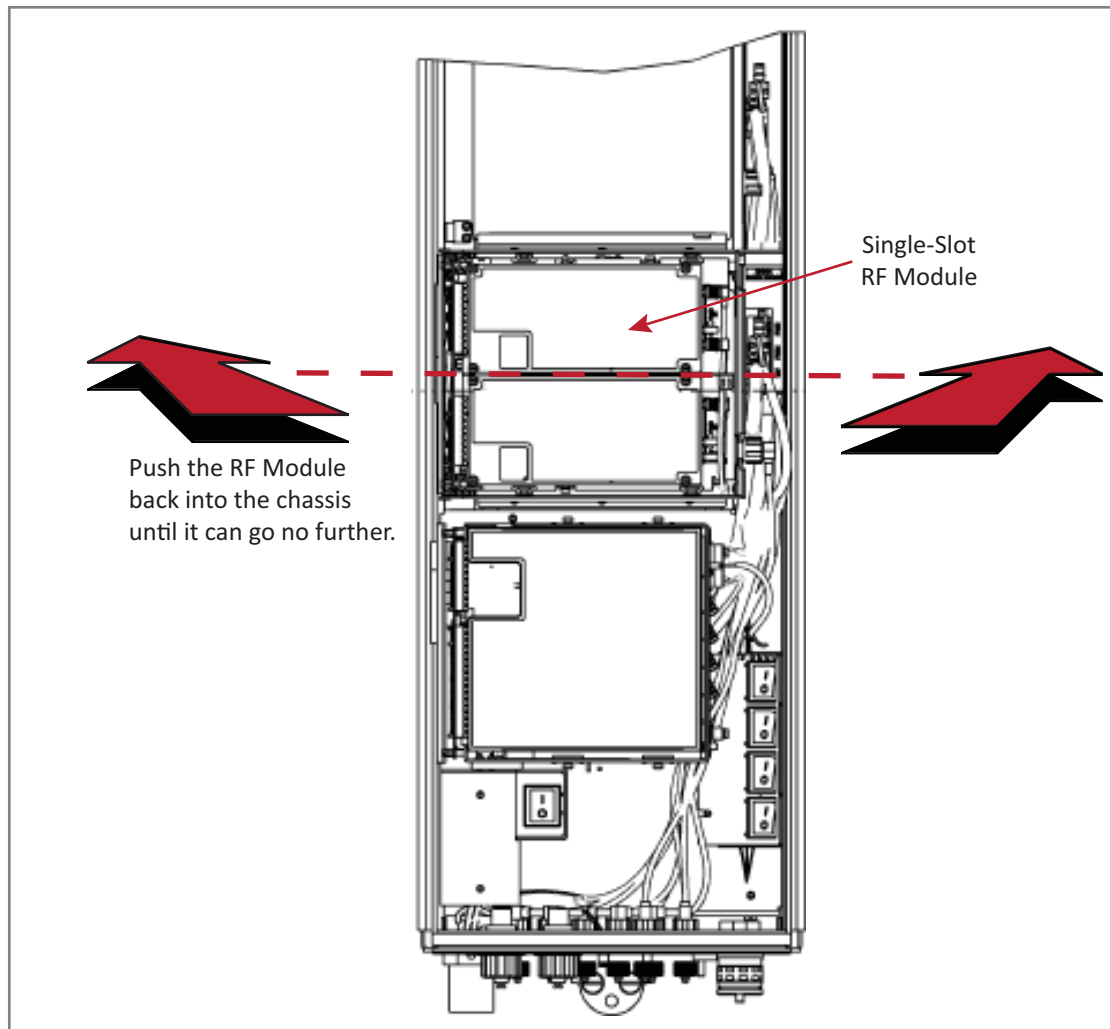

Figure 25. Seating a Single-Bay RF Module
- For Single-Bay RF Modules, see Figure 25 on page 91.